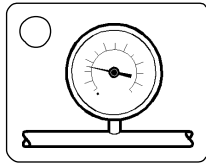

Figure 10-15. Glue-Pressure-Edit-Menu Icon Button
1. Press the glue-pressure-edit-menu icon button (Figure 10-15). The glue-pressure-edit menu displays (Figure 10-16). The glue-pressure-edit menu contains the glue-pressure table.